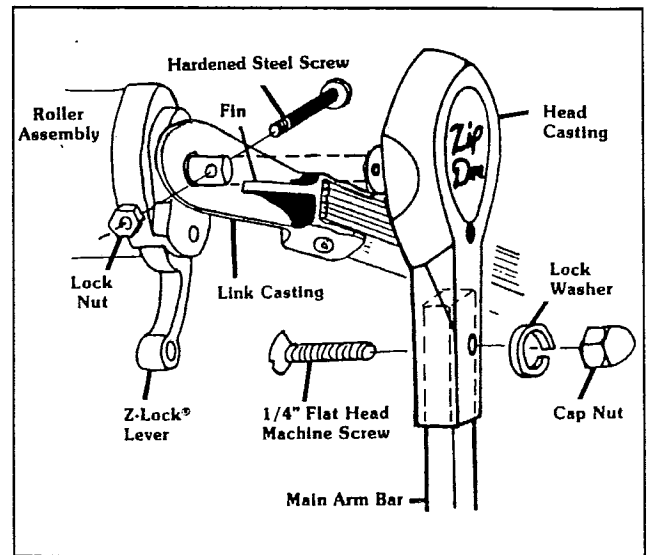

Figure 8
2. Reattach Z-Lock assembly, if it was removed in Step A7. Use 5/32 x 4/16 steel blind rivets. Reattach the Head Castings to each end of the roller. (Fig. 8) If the awning style is US or UC produced after 1989, reattach the Rafter Bars to each end of the roller by slipping the Rafter Link that were removed in step 6 onto shafts of roller. **Remember:** There is a front and rear bar marked in Step 5. Be sure Fin on casting facing away from roller before securing Head Castings. (Fig. 8)